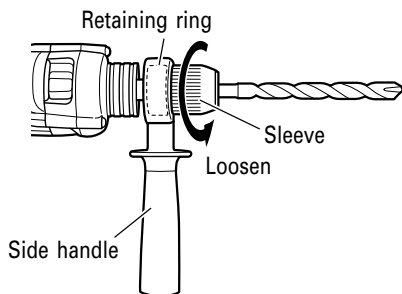

Fig. 4
When the sleeve does not become loose any further, fix the side handle to retaining ring, hold side handle firmly, then turn the sleeve to loosen by hand. (Fig. 4)
9. Check the rotational direction (Fig. 4) (DV13VSS, DV16VSS only)